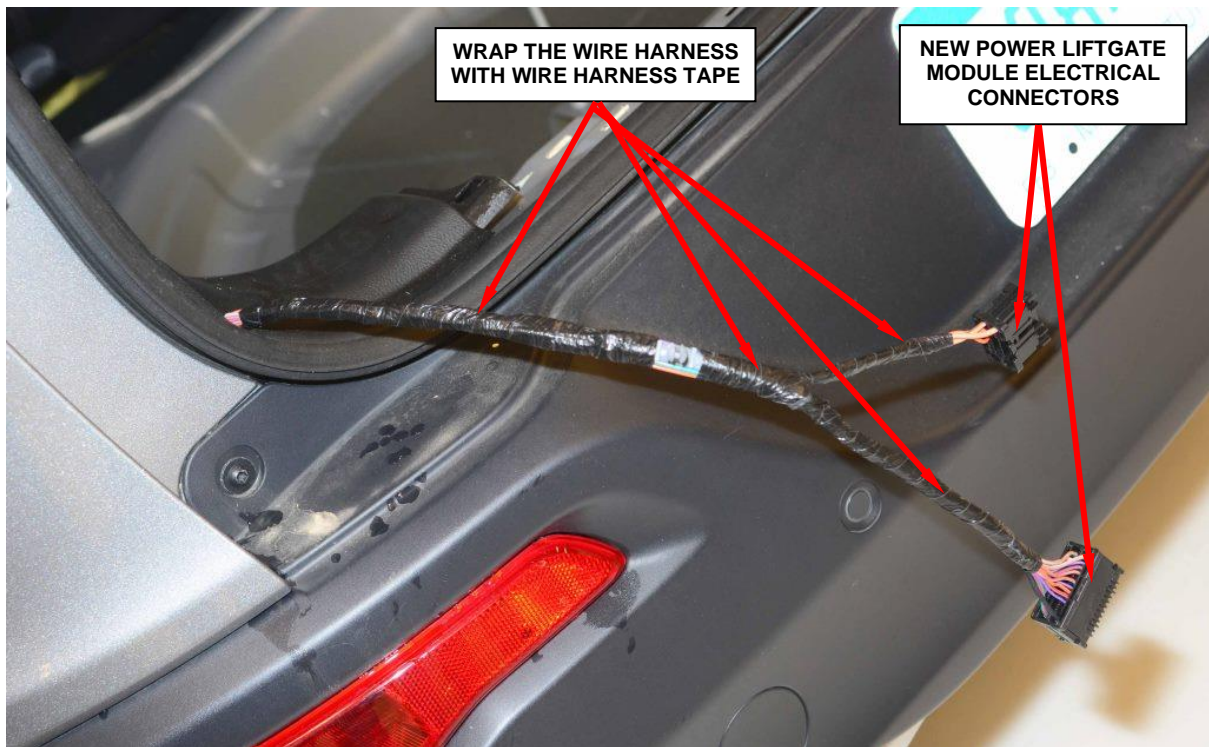

Figure 15 – Wrap Wire Harness with Tape
6. Using the supplied wire harness tape, wrap the wire harness (Figure 15).